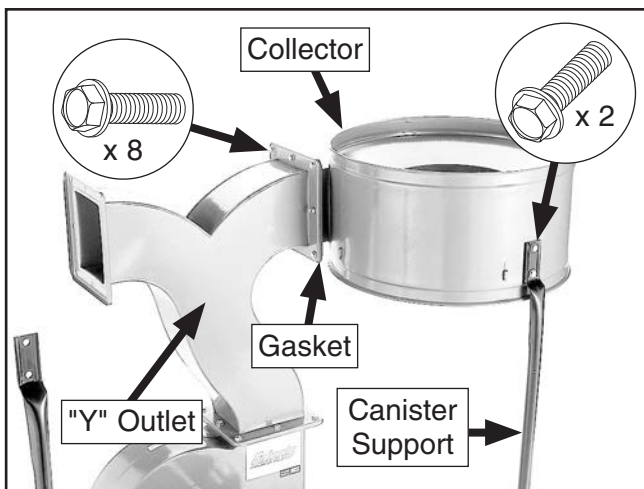

Figure 16. Collector installed.
- With assistance, place one of the rubber gaskets around the rim of the intake on one of the collectors, then secure the collector to the metal "Y" outlet with (8) $\frac{5}{16}$ "-18 x $\frac{1}{2}$ " flange bolts (see **Figure 16**).
- Attach the top of the canister support to the collector with (2) $\frac{5}{16}$ "-18 x $\frac{1}{2}$ " flange screws, as shown in **Figure 16**.